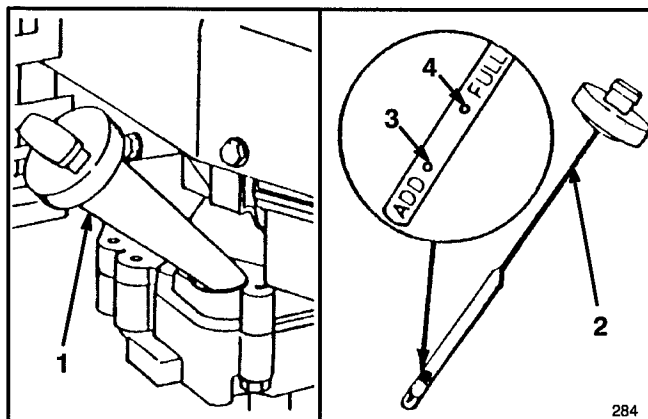

Figure 6
Fill crankcase with SAE 30 oil until oil level reaches FULL mark on dipstick as shown in Figure 6. 10W30 oil may be substituted if SAE 30 oil is not available. The maximum crankcase capacity is 25 ounces (0.75 liters) of oil. Use any high quality detergent oil having the American Petroleum Institute (API) "service classification" — SF, SG or SH.
Before each use, ensure oil level is between ADD and FULL marks (Fig. 6). Add oil if level is low.
- Wipe dipstick and insert it into filler neck. Rotate cap 1/4 turn. Then remove dipstick and check level of oil (Fig. 6). If level is low, add only enough oil to raise level to FULL mark on dipstick. **DO NOT FILL ABOVE**
1. **CHECK OIL LEVEL**—Maintain oil level between ADD and FULL range as shown on dipstick (Fig. 6).